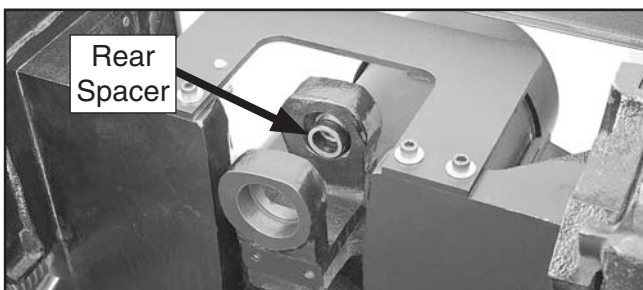

Figure 138. Location of rear spacer.
15. Remove the rear spacer from the bearing housing (see **Figure 138**).